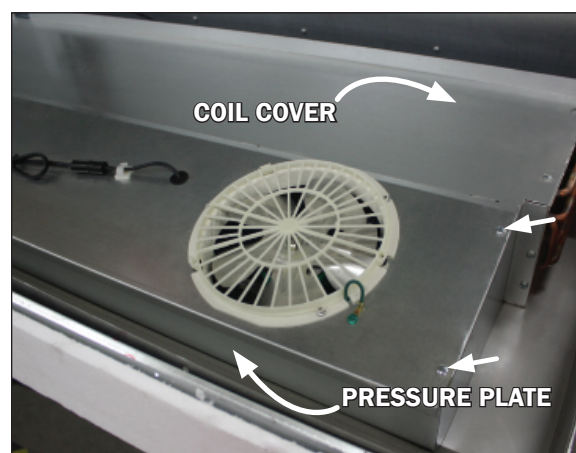
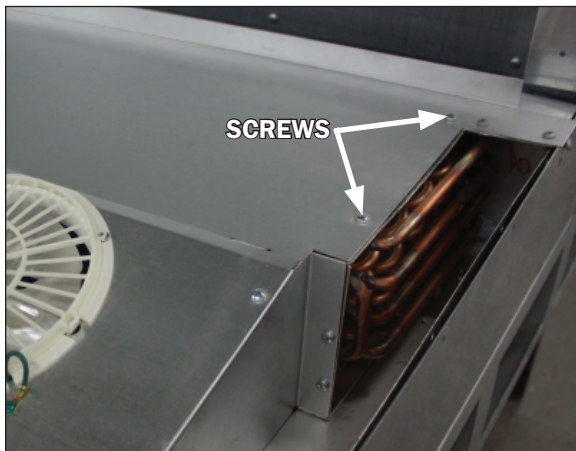

Fig. 13 Pressure plate, screw locations and coil cover (topside)
Fig. 16 Coil cover removal
2. To access the underside of the fans first remove the screws on the top ends and front sill of the pressure plate cover (Fig. 13). Lift the pressure plate by use of the
2. Remove the top two screws at both ends of the coil cover (Fig. 16), as well as the screws from the top ends and front sill of the pressure plate cover (Fig. 13). **Be sure to save the removed screws for reassembly.**